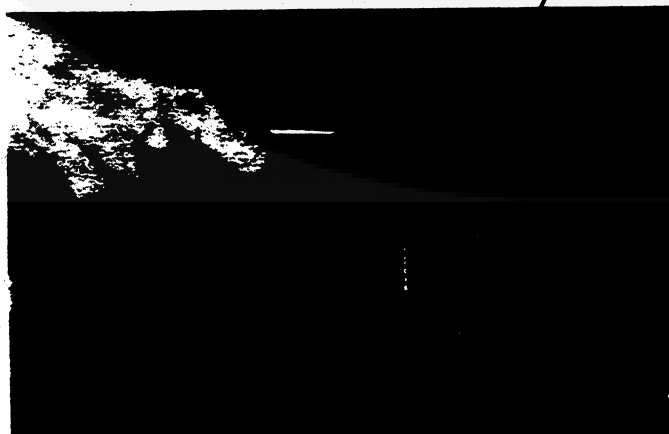

FIGURE 24. REMOVING RIDGE FROM CYLINDER
3. Remove carbon from top of cylinder bore and check for a ridge. Remove ridge (Figure 24) with a ridge reamer before attempting piston removal.